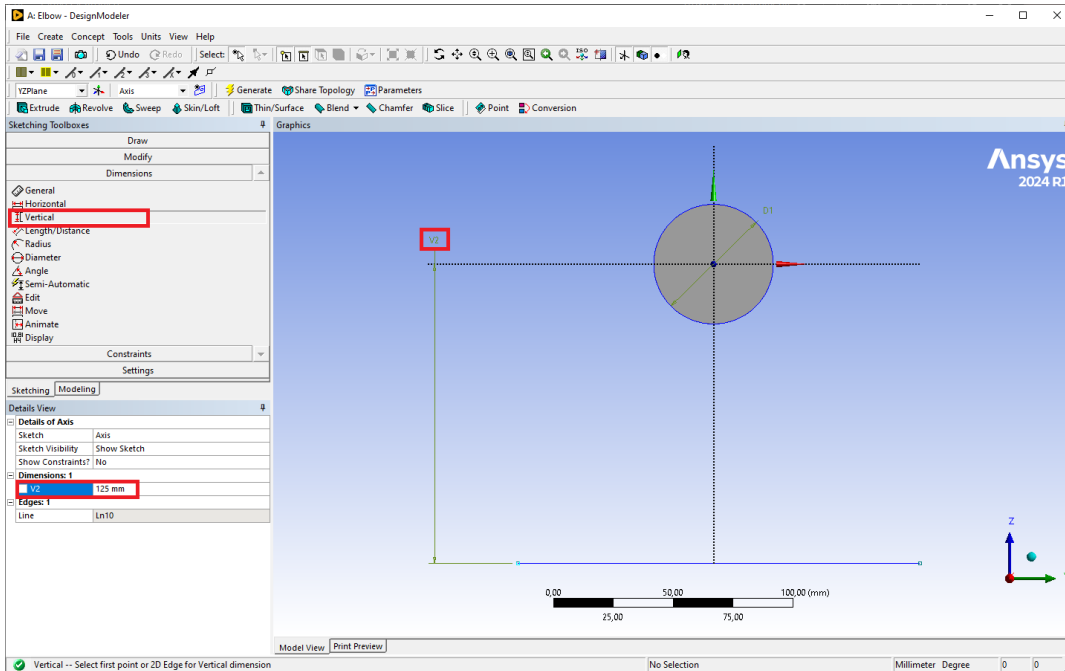

Figure 16: Quotation of the horizontal axis.
- Define, as previously, the correct value of the quota, equal to 125 mm, as illustrated in figure 16.